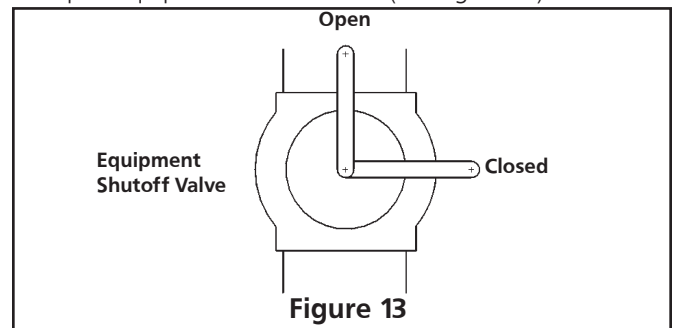

Figure 13
1. The appliance must be isolated from the gas supply piping system by closing its equipment shutoff valve during any pressure testing of the gas supply piping system at test pressures equal to or less than 1/2 psi (3.5 kPa). (see figure 13).
3. Open equipment shutoff valve (see figure 13).